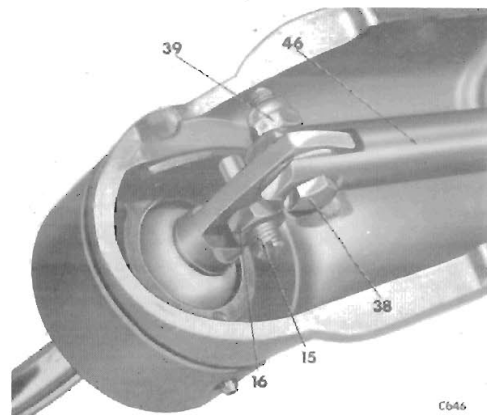

Fig. 9.
Release cap (4) as shown on Fig. 9. Lift the lever assembly out of the extension and remove the cups (5) and (6), together with the outer spring (7).